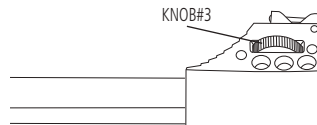

Fig 5
- If the shot is too high, turn KNOB#3 clockwise. (Fig. 5)
- If the shot is too low, turn KNOB#3 counter-clockwise. (Fig. 5)